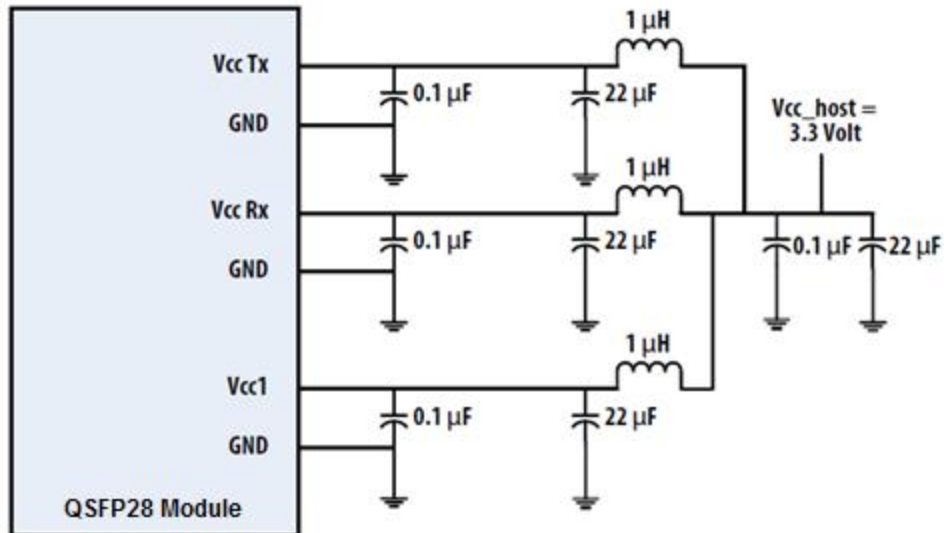

Figure 4. Recommended Power Supply Filter for QSFP28 Terminal
2. VccRx, Vcc1 and VccTx are the receiving and transmission power suppliers and shall be applied concurrently. Recommended host board power supply filtering is shown in Figure 4 below. Vcc Rx, Vcc1 and Vcc Tx may be internally connected within the QSFP28 transceiver module in any combination. The connector pins are each rated for a maximum current of 1000mA.